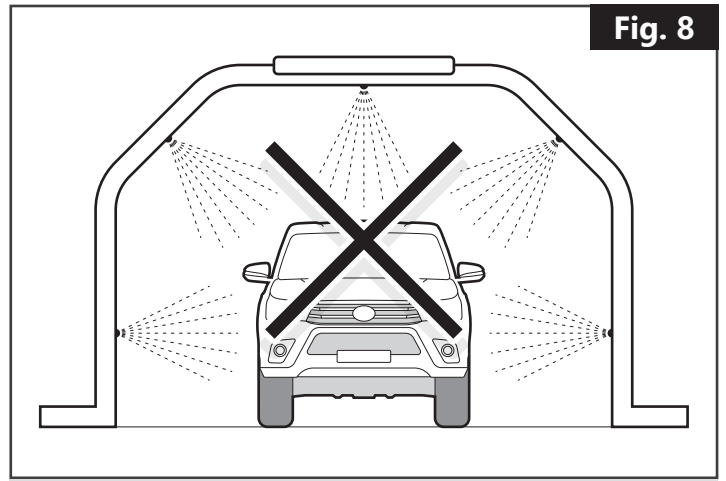

Fig. 8
- We do not recommend washing the Mountain Top Style in a brushless carwash, as the coating may be damaged due to use of chemicals. If washed in any carwash, or if any chemicals are used on the roll cover, please ensure a max PH value of 8 is used. **(Fig. 8)**